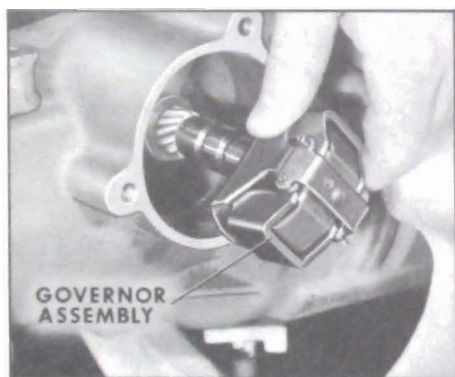

Figure 5-360
1. Slide governor into its bore in case. Turn governor assembly so teeth on governor gear engage teeth on output shaft. See Figure 5-360.